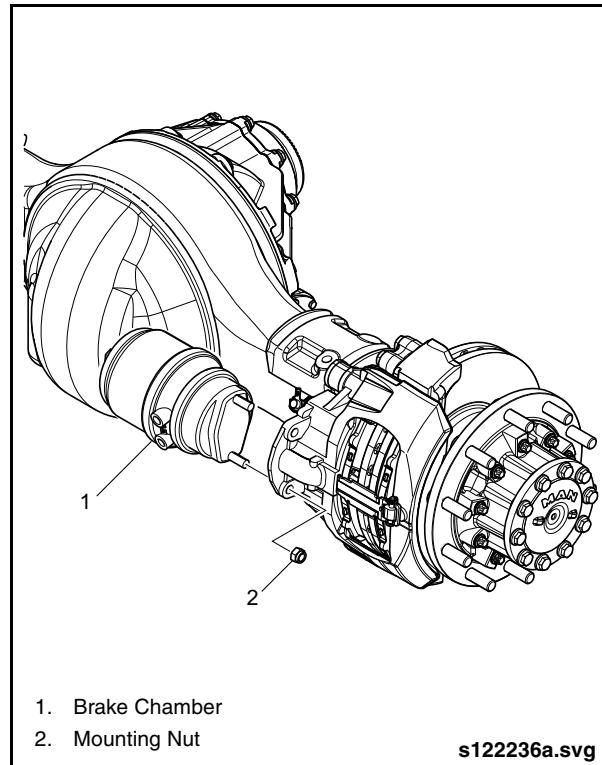

Fig. 2-141: Removing Brake Chamber
7. Remove the two lock nuts securing the brake chamber to the brake caliper assembly and remove the brake chamber from the vehicle. See "Fig. 2-141: Removing Brake Chamber" on page 122.